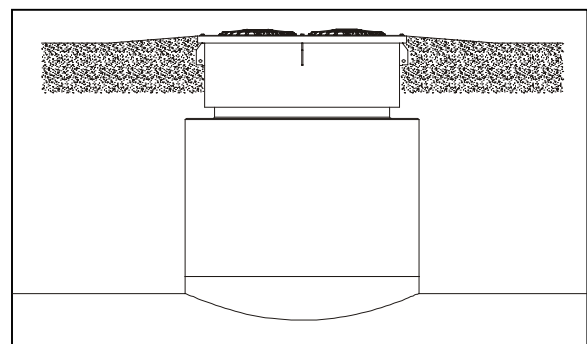

Figure 7
25. It is recommended that the paved contours around POMECO covers be adequately sloped to direct water flow away from the cover, and directing water runoff from adjacent areas away from POMECO covers. (See Figure 7.)